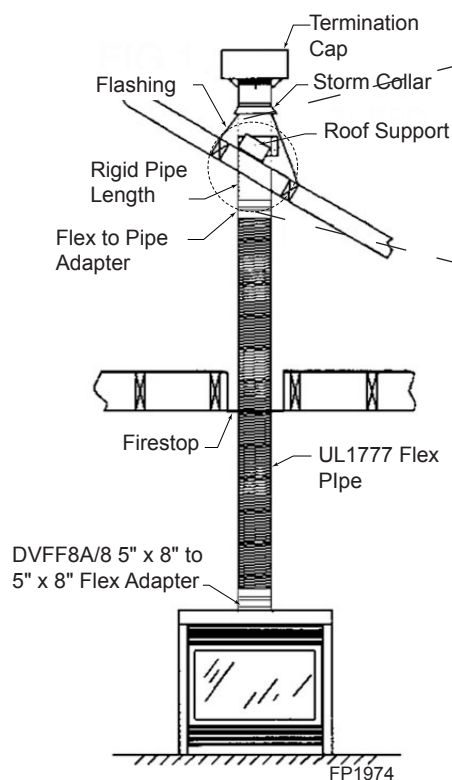

Figure 43 -
2. Install firestop spacers, *Figure 43*, when penetrating ceiling, attic spaces, or walls.
4. Use only listed and approved terminations and accessories, installed per the installation instructions and *Figure 43*.